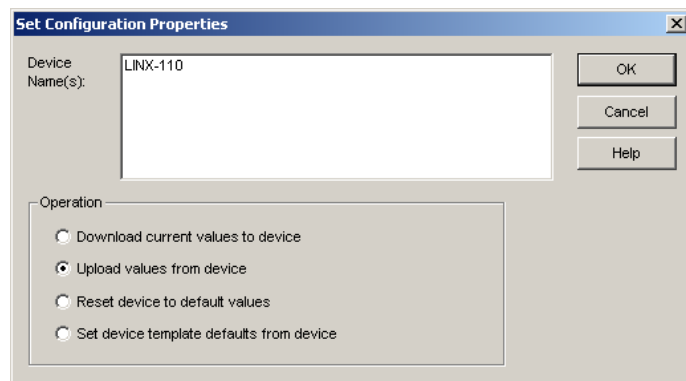

Figure 100: Set Configuration Properties in LonMaker TE.
2. This opens the dialog shown in Figure 100.